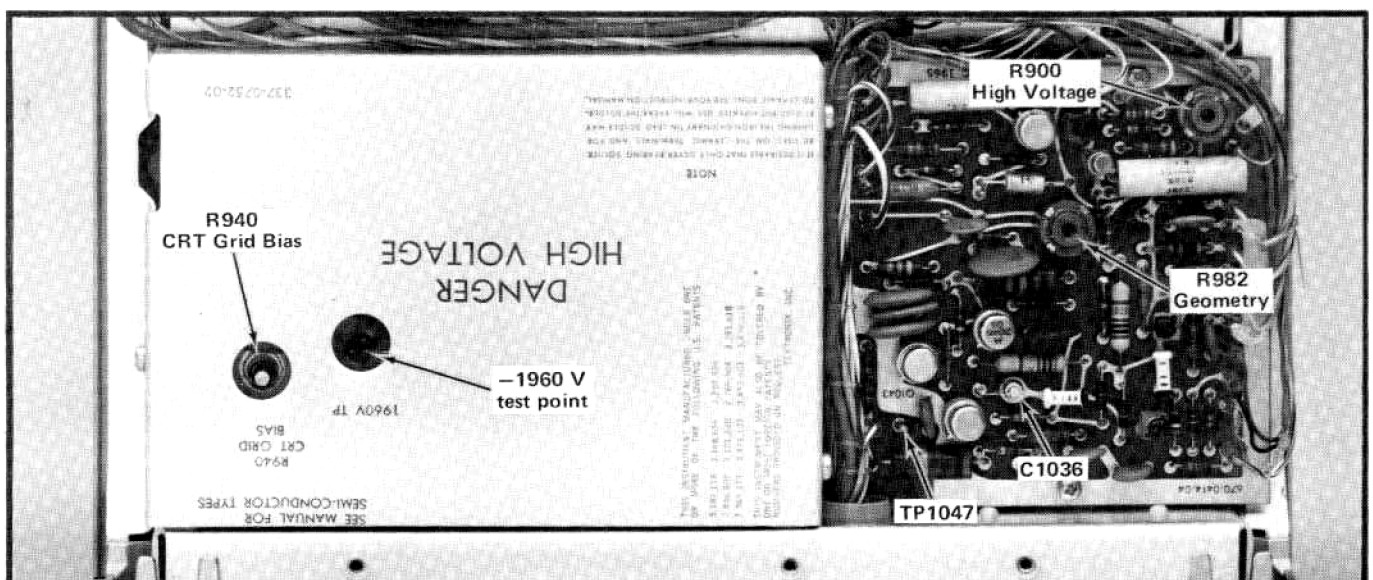

Fig. 5-5. Location of high-voltage and Z-axis test points and adjustments (bottom of instrument).
c. ADJUST—High Voltage adjustment R900 (see Fig. 5-5) for -1960 volts.
a. Connect the DC voltmeter (VOM)⁴ between the -1960 V test point (see Fig. 5-5) and chassis ground.
- a. Connect the DC voltmeter (VOM) between TP1047 (see Fig. 5-5) and chassis ground.
- d. ADJUST—CRT Grid Bias adjustment R940 (see Fig. 5-5) so the dot on the CRT is just extinguished (it may be necessary to turn the horizontal POSITION control clockwise to bring the dot onto the viewing area).
f. ADJUST—Geometry adjustment R982 (see Fig. 5-5) for minimum bowing of the trace at the left and right edges of the graticule.
c. Connect the probe tip to TP1047 (see Fig. 5-5); connect the probe ground to chassis ground with a short grounding strap.
g. ADJUST—C1036 (see Fig. 5-5) for optimum square corner on the unblanking gate.